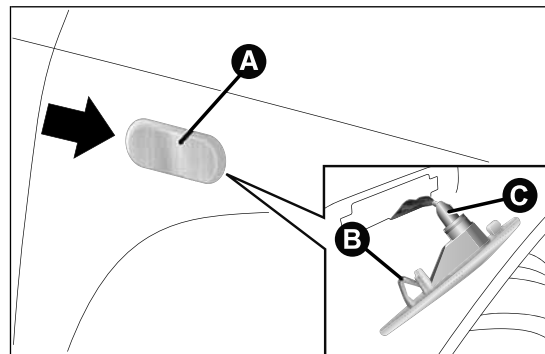

fig. 124
- ☐ adjust the lens A fig. 124 to compress in the internal catch B, then pull the unit outwards;